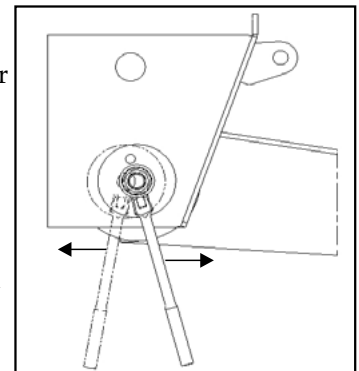

Figure 14. Move beam back-and-forth with breaker bar until the axle reaches desired location.
1. Tighten the pivot nut on the selected beam until snug, then back off one-turn. The beam should easily move forward and backward using the breaker bar (Figure 14).